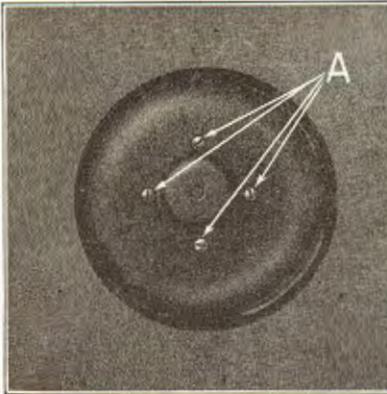
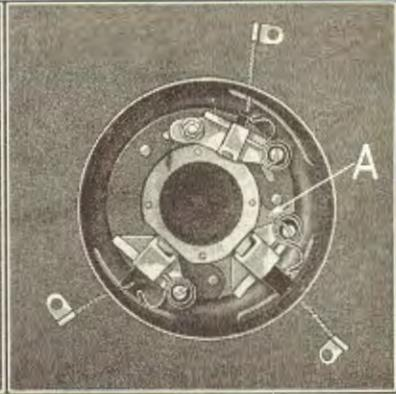

Fig. 485
Fig. 486
- Loosen the four brush ring screws (See "A" Fig. 485) approximately half a turn which will allow the brush holder assembly (See "A" Fig. 486) to be moved freely in either direction; care should be taken not to run out the screws more than is actually necessary to allow the brush holder assembly to move freely. (If the screws are run out too far, the clamp ring will fall off inside the generator, and to replace it would necessitate removal of the generator).